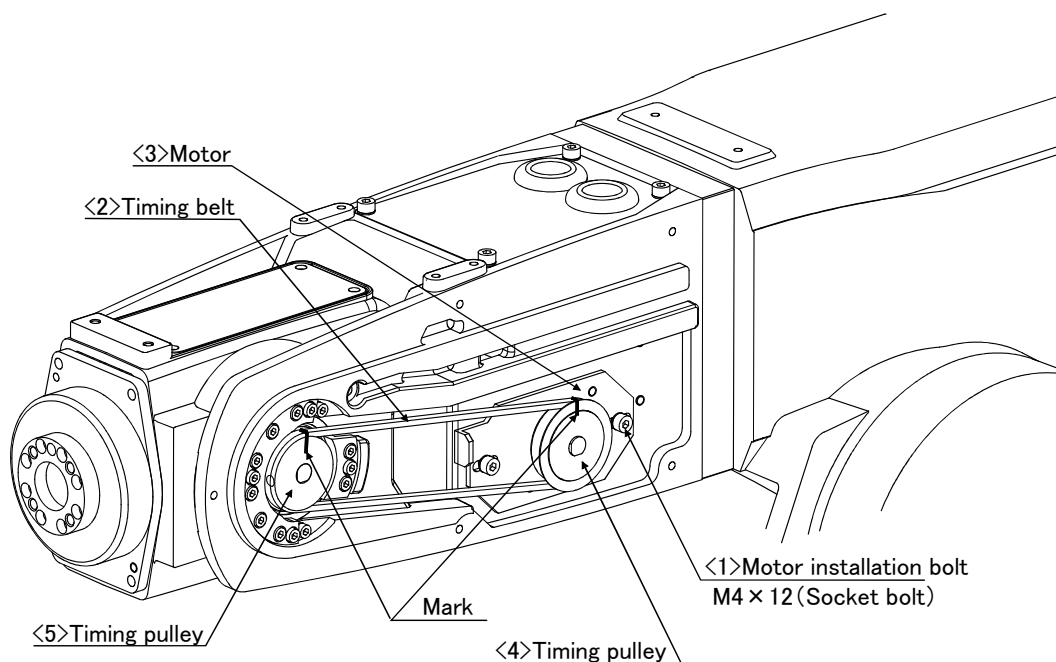

Fig.5-4 : Inspection, maintenance and replacement of J5-axis timing belt
- 3) Move the motor <3> in the directions of the arrows shown in Fig. 5-4, using the tension adjustment screw while checking the tension of the timing belt <2>. Lightly pushing the center of the belt with your finger (approximately 1.3 N), move the motor to the position where the belt flexes about 2.3 mm.
- 1) Fig. 5-4 shows the methods for inspecting, adjusting and replacing the timing belt.
- 5) Make marks on the timing belt <2> and timing pulleys <4> and <5> with a felt-tip pen as shown in Fig. 5-4 so that the engagement of the timing belt <2> and timing pulleys <4> and <5> does not deviate.